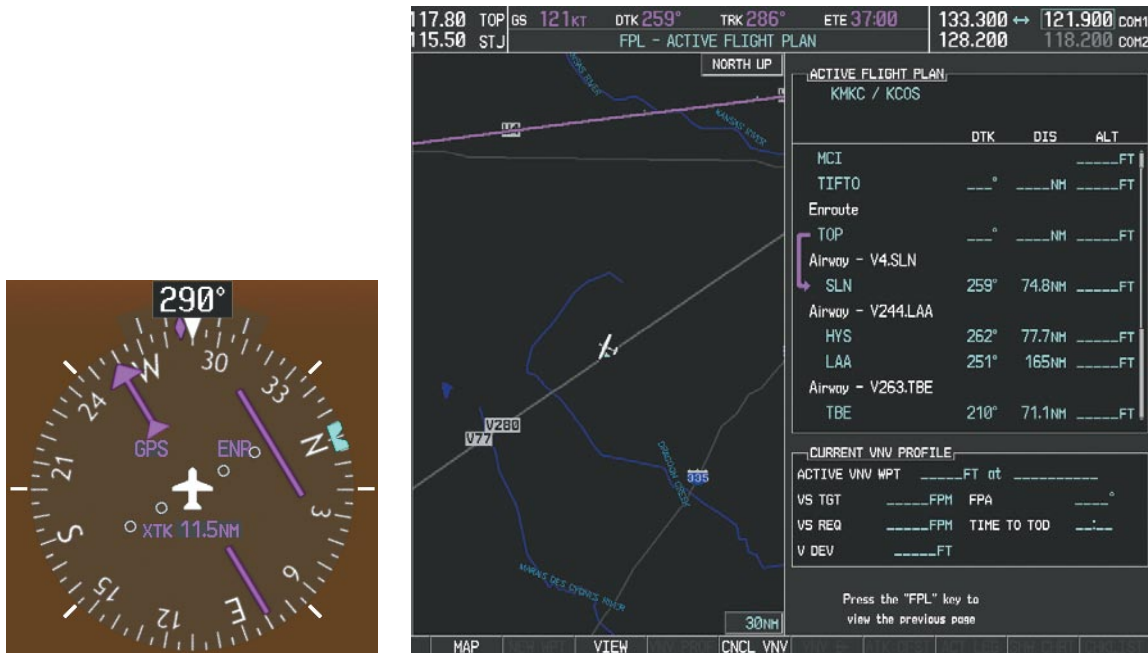

Figure 5-112 V4 Now Active Leg
- d) Verify the displayed leg is the desired leg and press the **ENT** Key. Note in Figure 5-112, the magenta arrow in the flight plan window and magenta line on the map indicating V4 is now the active flight plan leg. Note the phase of flight remained in Terminal (TERM) mode up to this point because a departure leg was active. Since a leg after the departure is now active, the current CDI flight phase is ENR (Enroute) and CDI scaling has changed to 2.0 nm.